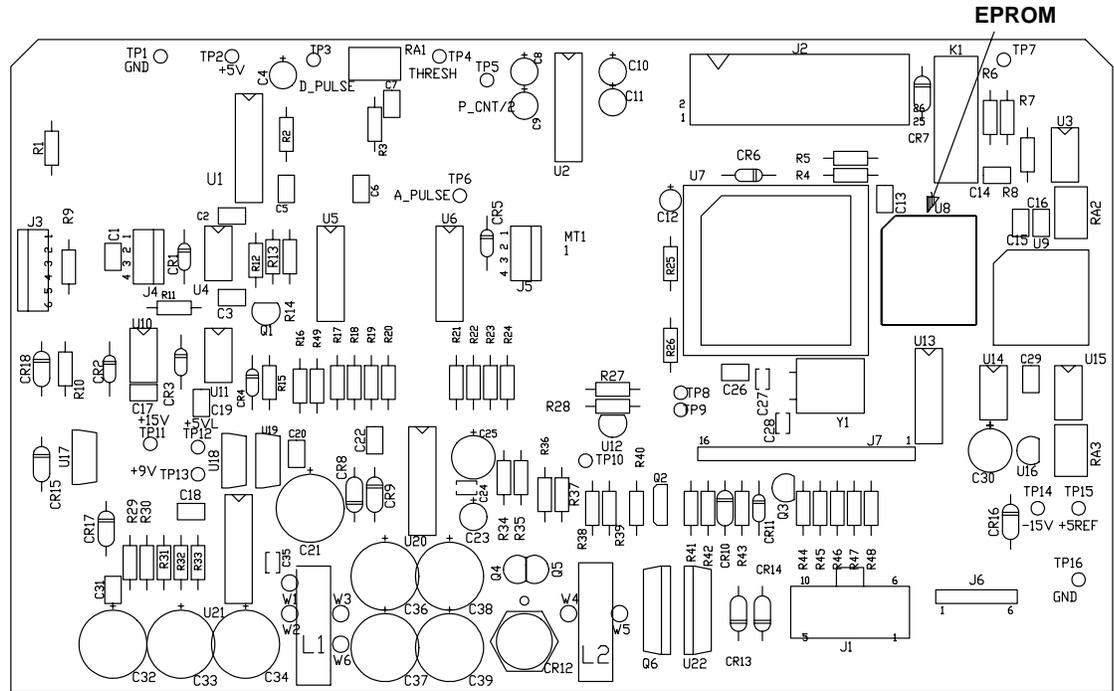

Figure 7-4
Refer to Figure 7-4 and the following instructions to install a new EPROM.
- 3.** Using the chip extractor, remove the old EPROM from its socket (Figure 7-4). Be very careful not to apply too much pressure.
- 5.** Align the chip in the socket, making sure the clipped corner of the chip matches the clipped corner of the socket as shown in Figure 7-4. Apply pressure to the center of the chip until it snaps down into the socket. Press *firmly* to make sure it is seated properly.